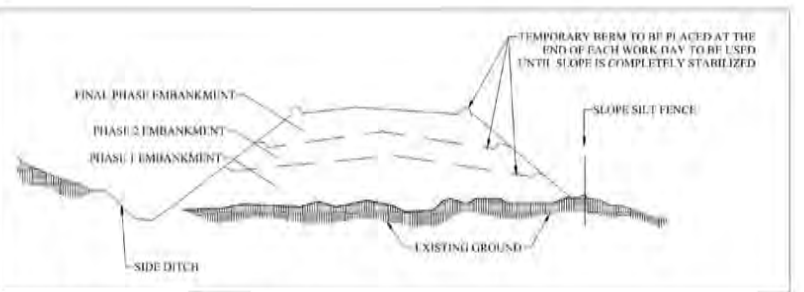

Figure 2.2 Incremental stabilization – fill.
- The construction sequence is as follows (refer to Figure 2.2):
- Excavate and stabilize all temporary swales, side ditches, or berms that will be diverted runoff around the fill. Construct Slope Side Fence on low side of fill as shown in Figure 2.2, unless other methods shown on the plans address this area.